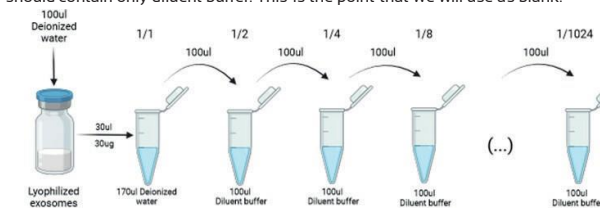

Figure 2: Graphical Representation of the serial dilution of the Standard included in the kit.
- We need to mix 200 µl from Eppendorf n°1 (1/1 dilution) to Eppendorf n°2 (1/2 dilution). Repeat this process until the 1/1024 dilution is completed (figure 2). Last well should contain only diluent buffer. This is the point that we will use as blank.